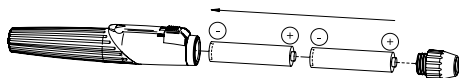

Fig. 3
To set up, unscrew the head piece (3) from the handle (1) and insert two alkaline primary cells (size LR03/AAA/1.5V) (Fig. 3). Then screw the head piece back on.
Unscrew the head piece (3) and shake out the batteries. Insert new batteries with the plus contact facing the handle head (Fig. 3). Then screw the head piece back on.